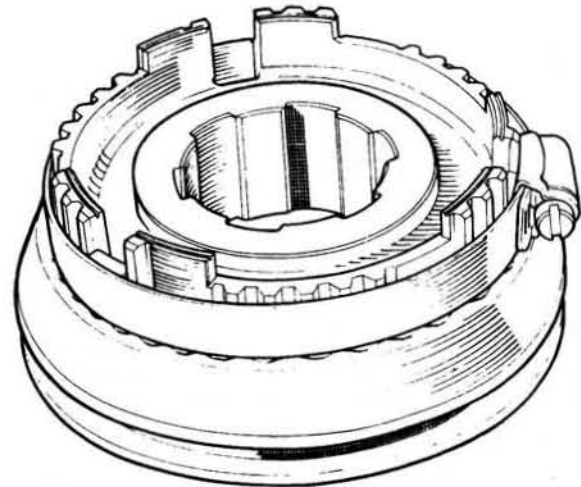

Fig. 6.24. Use of a jubilee clip to compress the springs
- 5 Compress the springs with a large jubilee clip, a piston ring clamp is ideal, as shown in Fig.6.24. Depress the hub slightly and then push down the thrust members with a screwdriver until they engage the neutral groove in the operating sleeve.